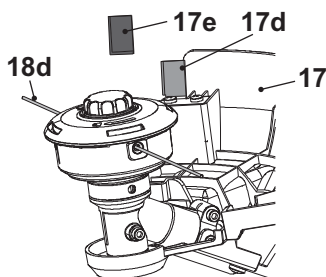

Fig. 19
The guard (17) protects the operator against thrown objects during operation. It is equipped with a knife (17d) that cuts the trimming lines (18d) (Fig. 19).